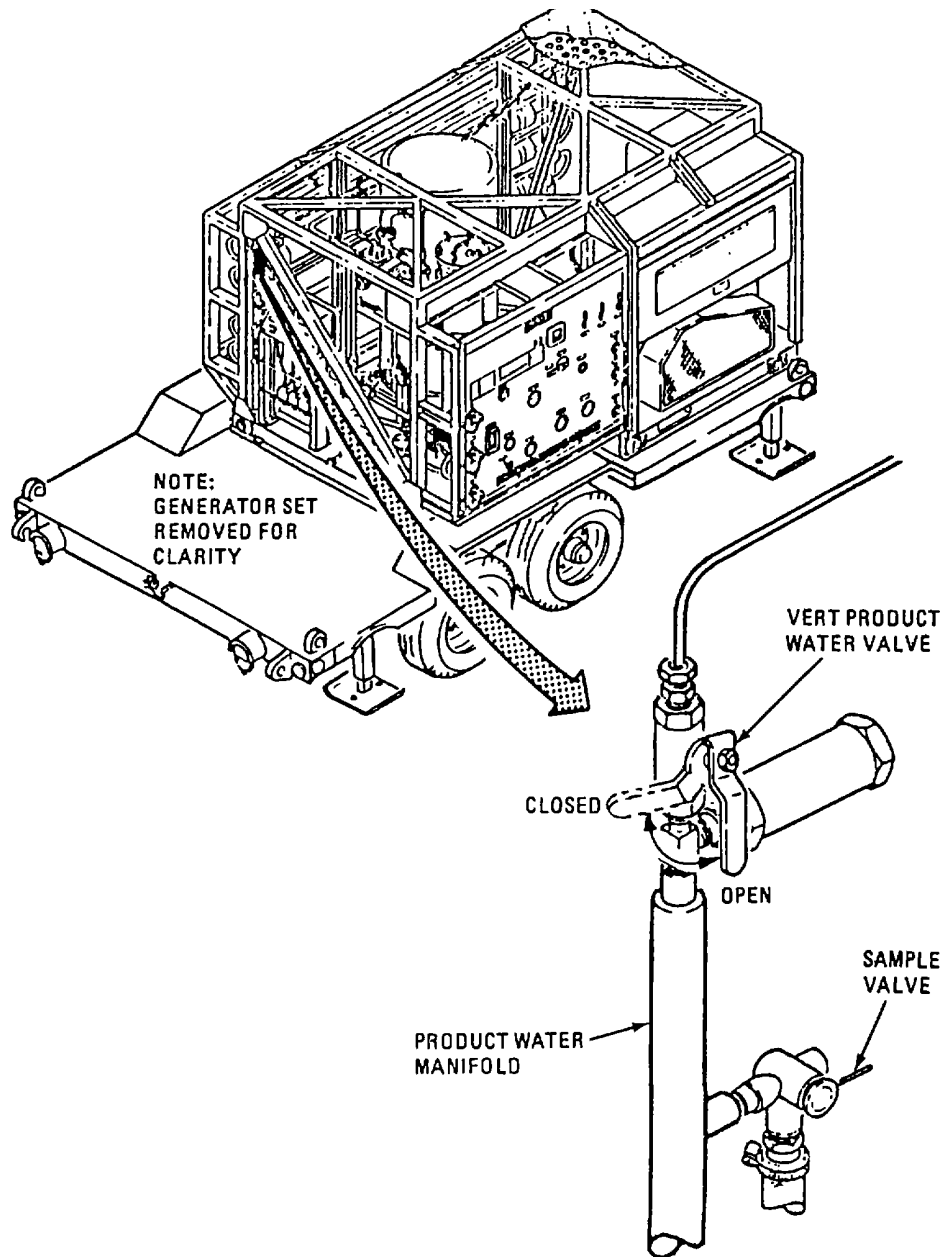

Figure 2-7. Vent Product Water Valve.
- f. Vent Product Water Valve. Refer to figure 2-7. The vent product water valve is located above and to the rear of the of the top R.O. tube, on the product water manifold. It allows air to escape from the product water line.